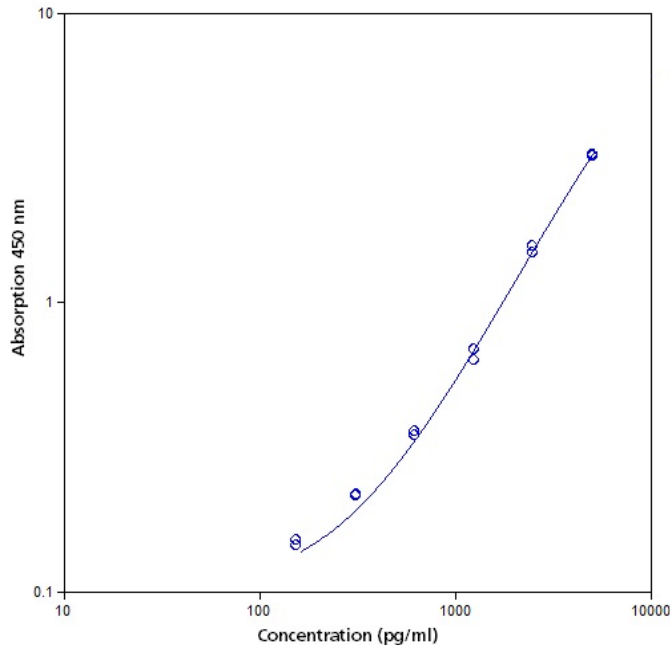

Fig. 9 Representative standard curve for human FABP-3 ELISA. Human FABP-3 was diluted in serial 2-fold steps in Sample Diluent.
- A representative standard curve is shown in Figure 9.